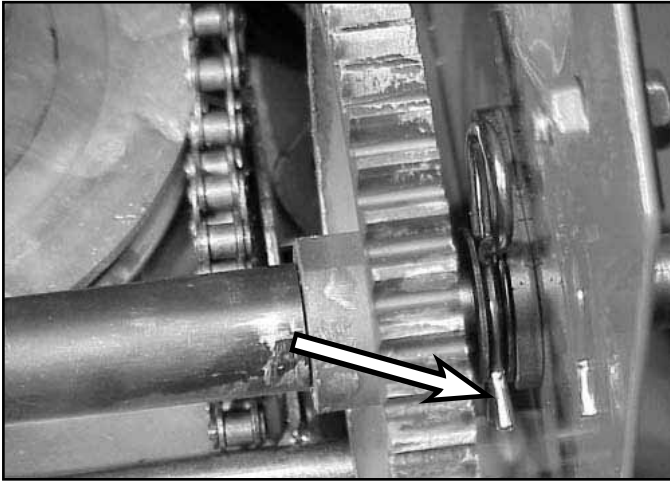

Fig 126
10. Remove both hairpins on either side of the axle of 44-tooth gear (Fig. 126).